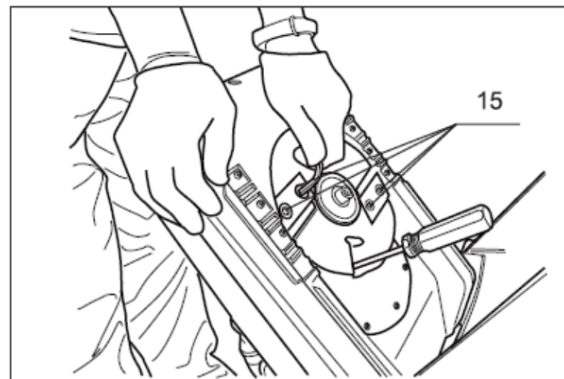

Fig. 9
6. Lock the blade disc. by screwdriver. Unscrew the two inner hexagonal headed bolts(15) and note the position of the cutting angle of the blade.(Fig.9)